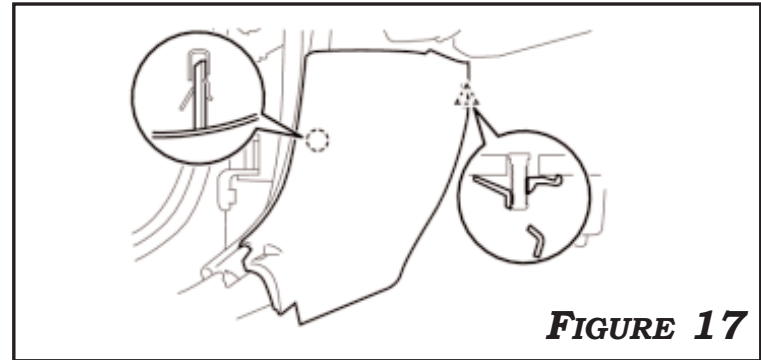

FIGURE 17
1. REMOVE DRIVER SIDE KICK PANEL AND SCUFF PLATE. **FIGURE 17.** REMOVE THE 2 SCREWS AND REMOVE THE INSTRUMENT PANEL LOWER FINISH PANEL. **FIGURE 18.**